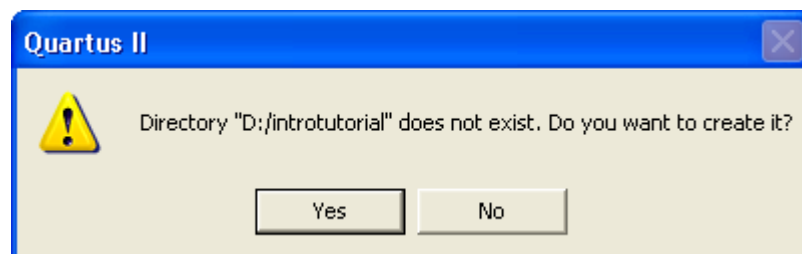
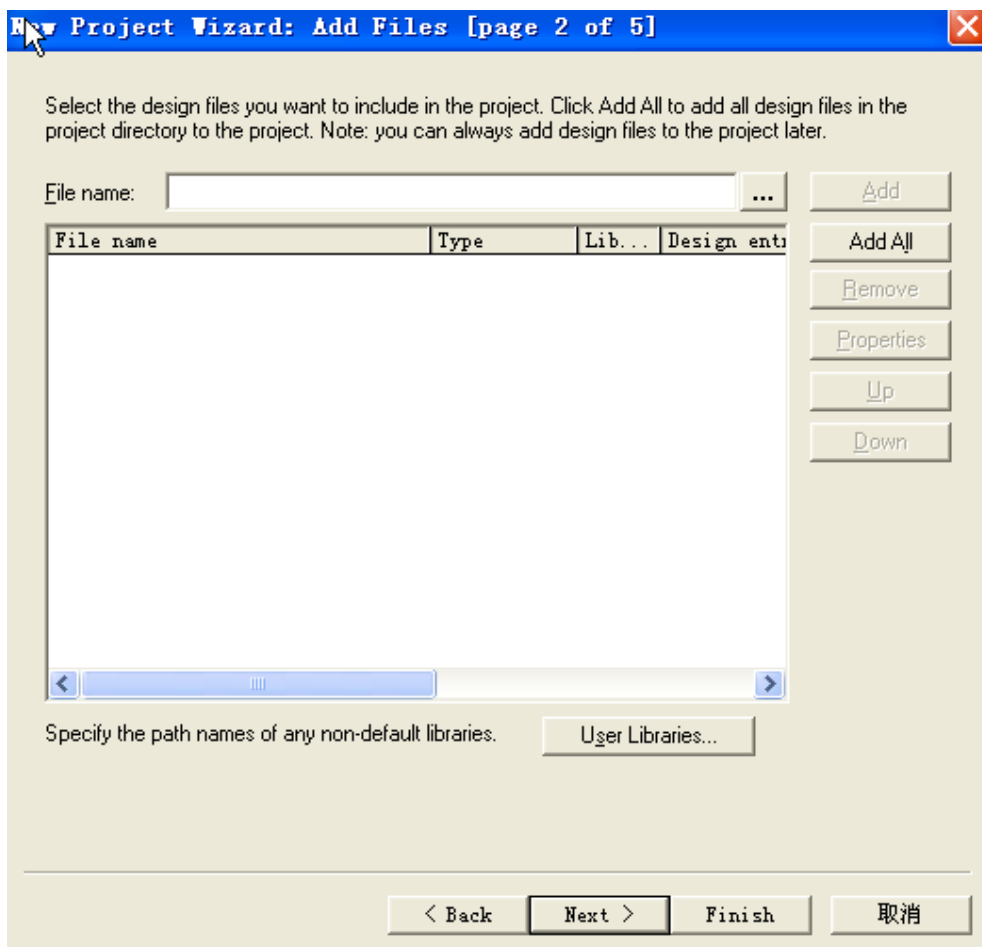
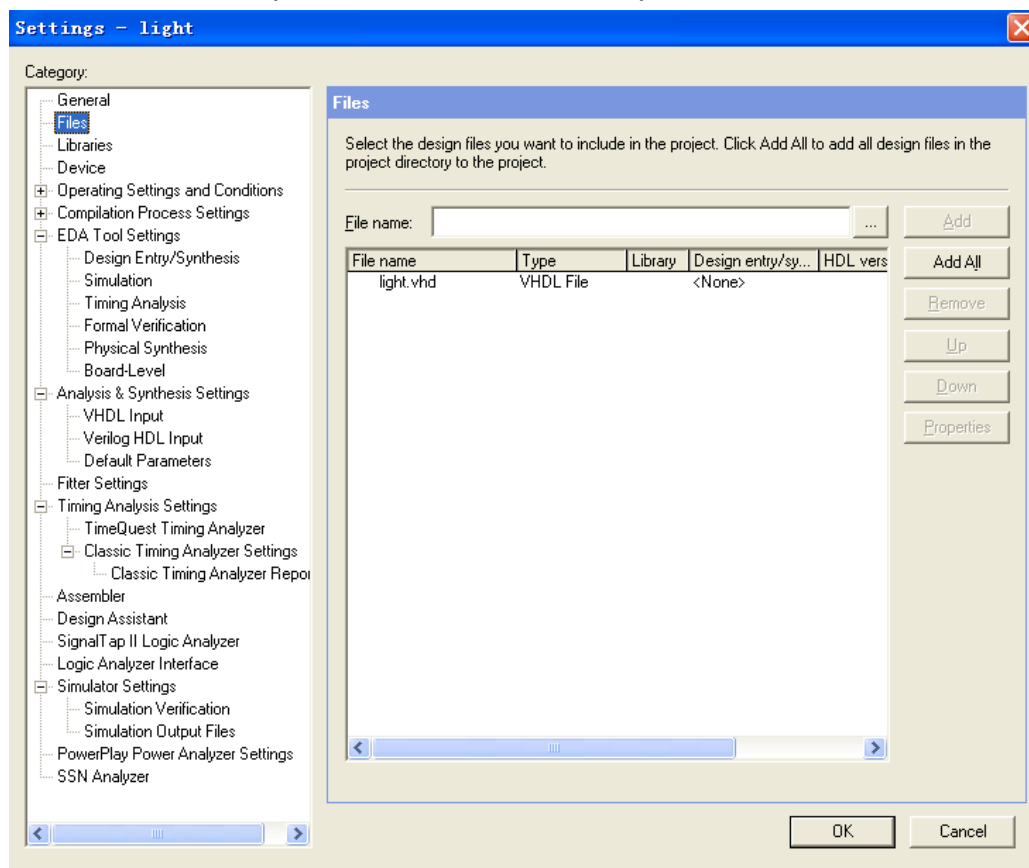

Figure 6. Quartus II software can create a new directory for the project.
Figure 7. The wizard can include user-specified design files.
Figure 17. Settings window.
2. Set the working directory to be introtutorial; of course, you can use some other directory name of your choice if you prefer. The project must have a name, which is usually the same as the top-level design entity that will be included in the project. Choose light as the name for both the project and the top-level entity, as shown in Figure 5. Press **Next**. Since we have not yet created the directory introtutorial, Quartus II software displays the pop-up box in Figure 6 asking if it should create the desired directory. Click **Yes**, which leads to the window in Figure 7.
As we indicated when discussing Figure 7, you can tell Quartus II software which design files it should use as part of the current project. To see the list of files already included in the light project, select **Assignments > Settings**, which leads to the window in Figure 17. As indicated on the left side of the figure, click on the item **Files**. An alternative way of making this selection is to choose **Project > Add/Remove Files in Project**.
If you used the Quartus II Text Editor to create the file and checked the box labeled Add file to current project, as described in Section 3.1, then the light.vhd file is already a part of the project and will be listed in the window in Figure 17. Otherwise, the file must be added to the project. So, if you did not use the Quartus II Text Editor, then place a copy of the file light.vhd, which you created using some other text editor, into the directory introtutorial. To add this file to the project, click on the File name: button in Figure 17 to get the pop-up window in Figure 18. Select the light.vhd file and click Open. The selected file is now indicated in the Files window of Figure 17. Click OK to include the light.vhd file in the project. We should mention that in many cases the Quartus II software is able to automatically find the right files to use for each entity referenced in VHDL code, even if the file has not been explicitly added to the project. However, for complex projects that involve many files it is a good design practice to specifically add the needed files to the project, as described above.